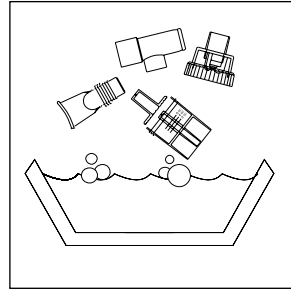

Figure 8
1. Using a clean container or bowl, soak items in three parts hot water to one part white vinegar for 30 minutes (**Fig. 8**) OR use a medical bacterial-germicidal disinfectant available through your provider. For reusable nebulizer only, clean daily in dishwasher using top shelf. Be sure to follow manufacturer's instructions carefully.